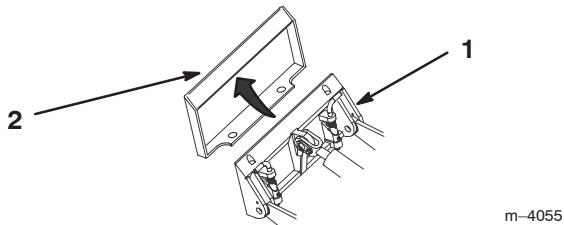

Figure 16
- Position mount plate into the upper lip of the attachment receiver plate (Fig. 16).